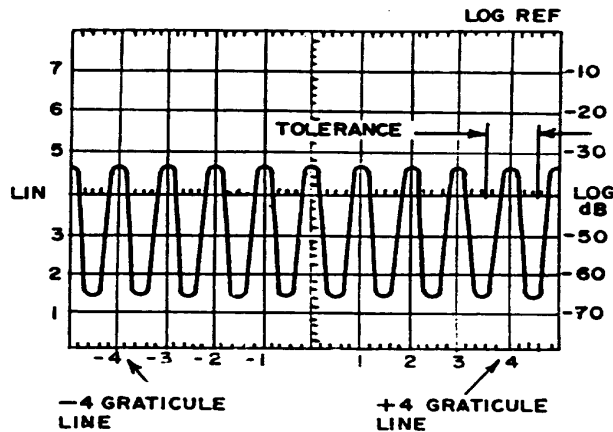

Figure 14. Scan width accuracy display.
- (2) Position IF plug-in controls as listed in (a) through (g) below:
(3) Adjust **FREQUENCY** and **FINE TUNE** controls to center a marker on the -4 GRATICULE LINE (fig. 14). Note that a 20 kHz marker appears at about every major division on display screen.
(4) Measure amount of error, in divisions, that marker deviates from +4 graticule line. Deviation for model 8552B is +0.24 major division and +0.40 major division for model 8552A (fig. 14).
- (5) Position TI switches as listed in (a) through (c) below: